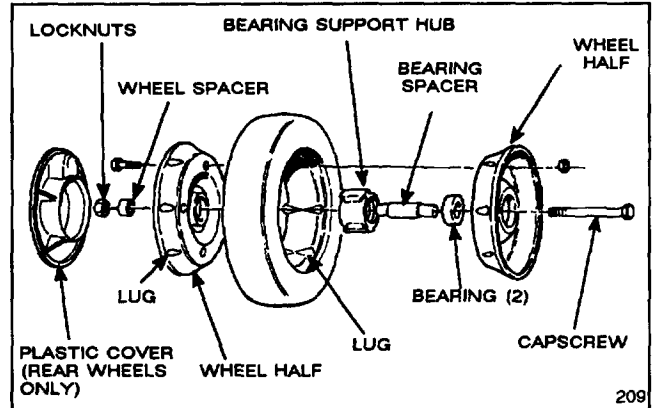

Figure 25
1. Stop engine and remove capscrew, wheel spacer, and locknut mounting wheel to pivot arm (Fig. 25).
2. Separate wheel halves from tire by removing (4) capscrews and locknuts (Fig. 25).
1. Position tire onto (1) wheel half aligning lugs on each (Fig. 25).
4. Using (2) 1/4-20 x 1.50" lg. fully threaded screws or bolts and non-locking nuts, loosely secure wheel halves together. Mount screws or bolts in opposing holes.
6. Install (2) capscrews and locknuts, previously removed, in remaining holes in wheel halves and tighten. Remove (2) long screws or bolts and replace with (2) capscrews and locknuts.